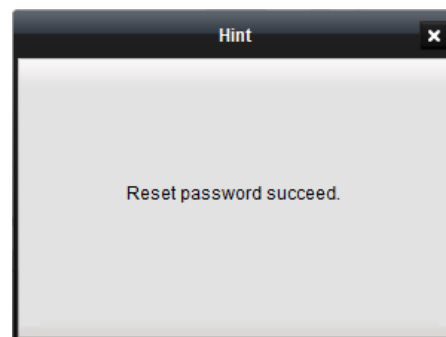

Figure 107 “Reset password succeed” message will appear
11. A “Reset password succeed” message will appear (Figure 107).